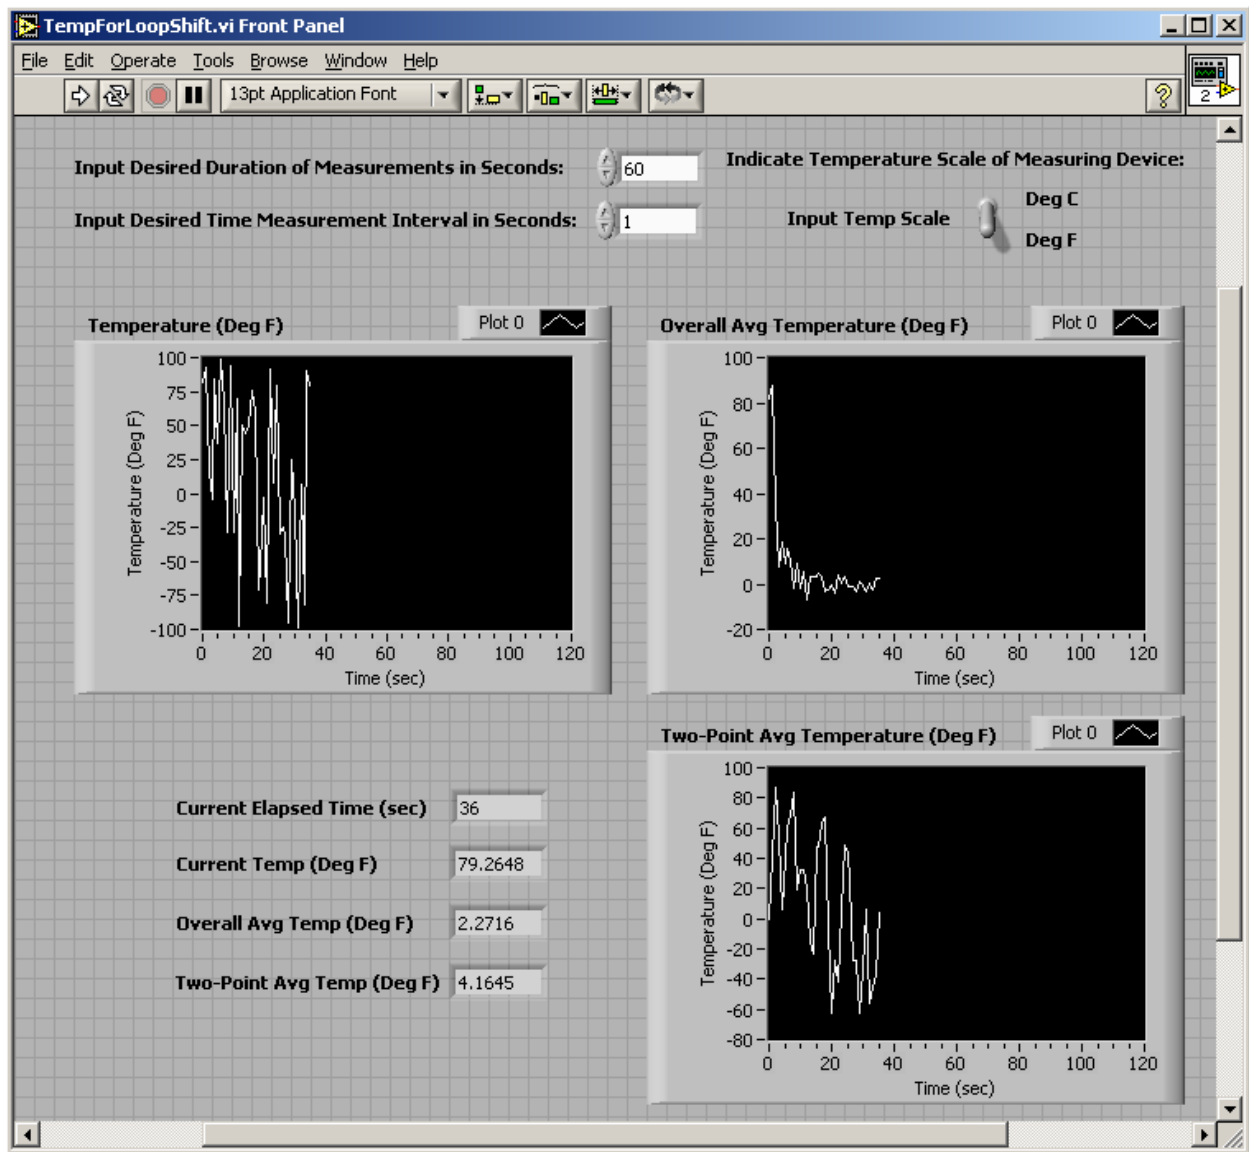

Figure 3.6: Front Panel for Temperature Averaging VI
1. **Label** the **Waveform Charts** and **Numerical Indicators** appropriately and organize your **Front Panel** so that it is easy to follow (Refer to Figure 3.6, if needed)